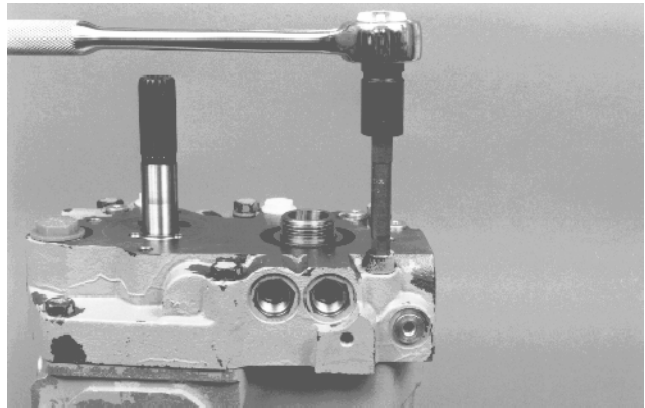

Figure 42
2. Remove six (6) screws securing the center section to the housing. Note position of longer and shorter screws. The cylinder block springs will cause the center section to separate from the housing (Fig. 42).